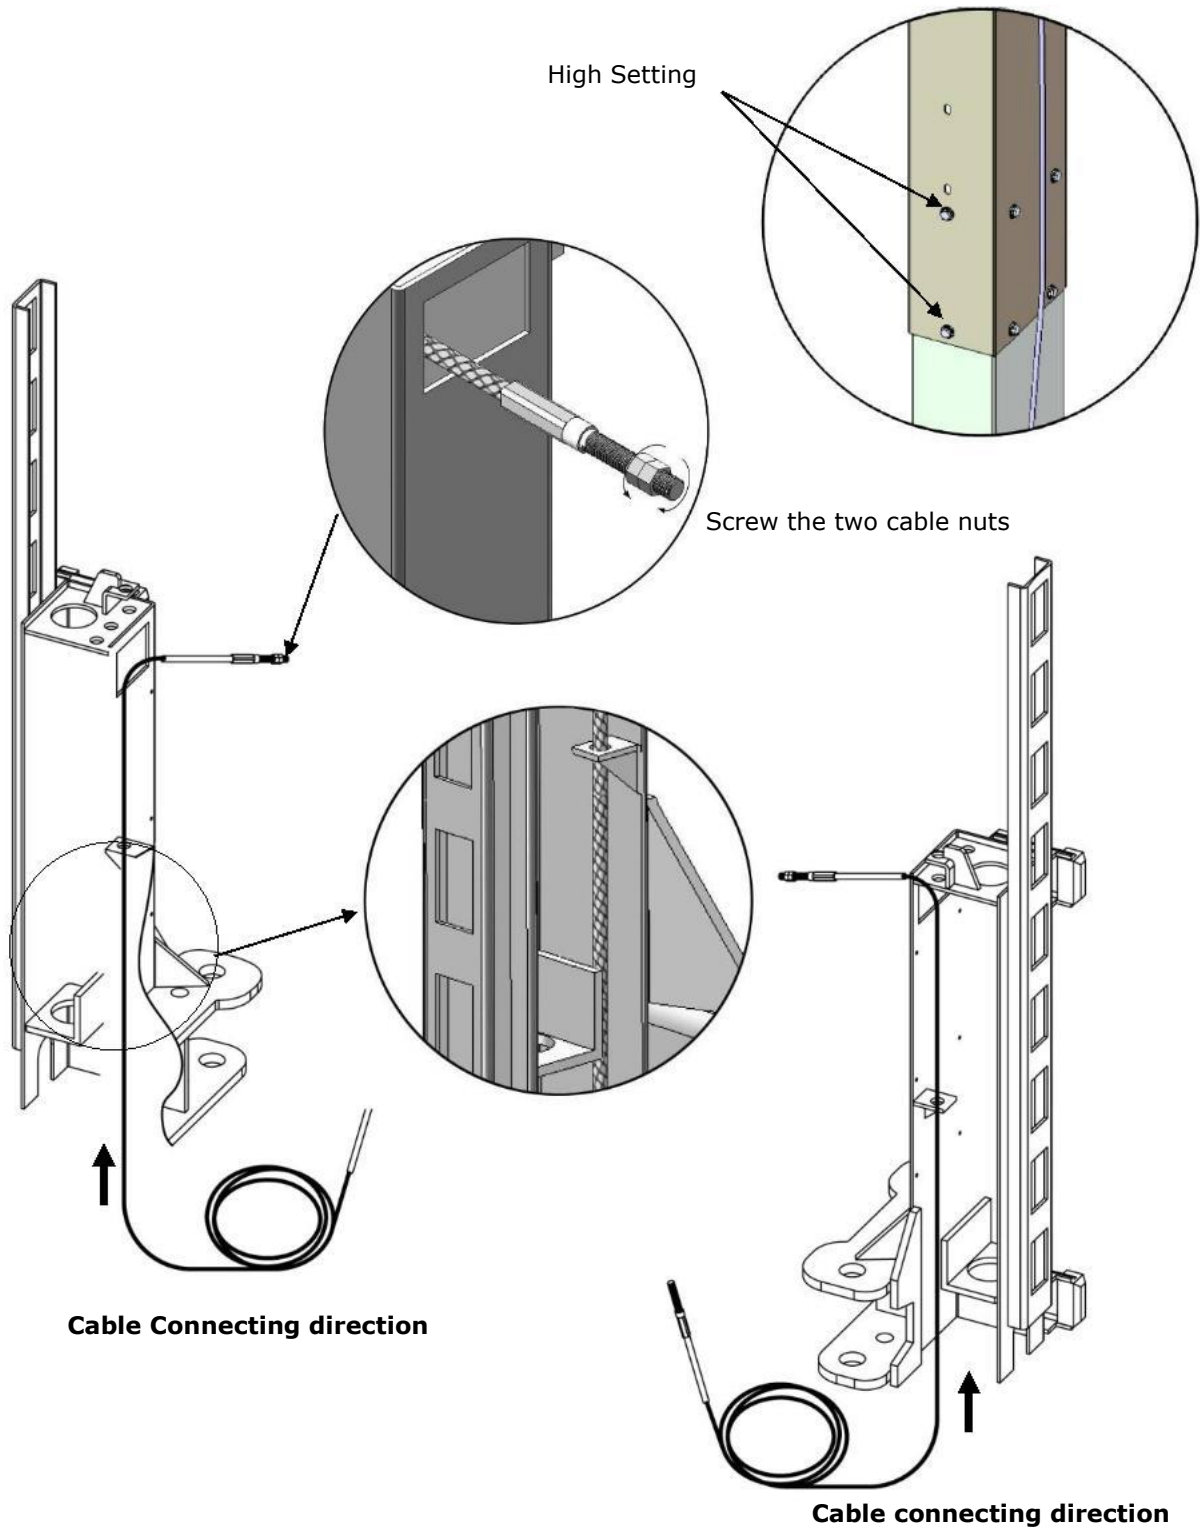

Fig. 23
2.1. Cable pass through from the bottom of the carriages and be pulled out from the open of carriages, then screw the two cable nuts (See Fig. 23).